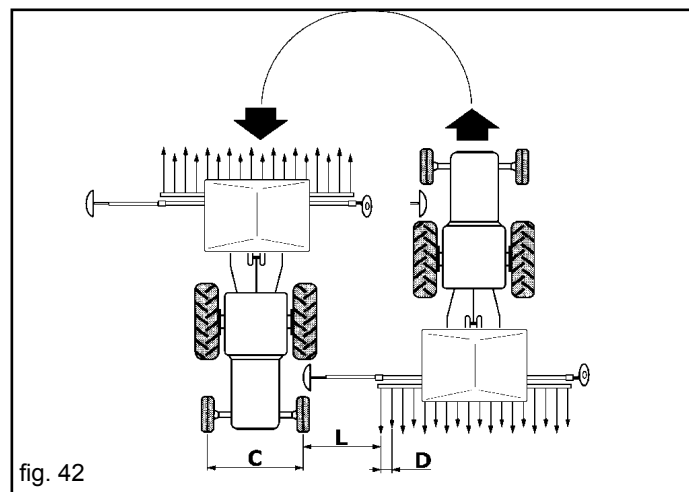
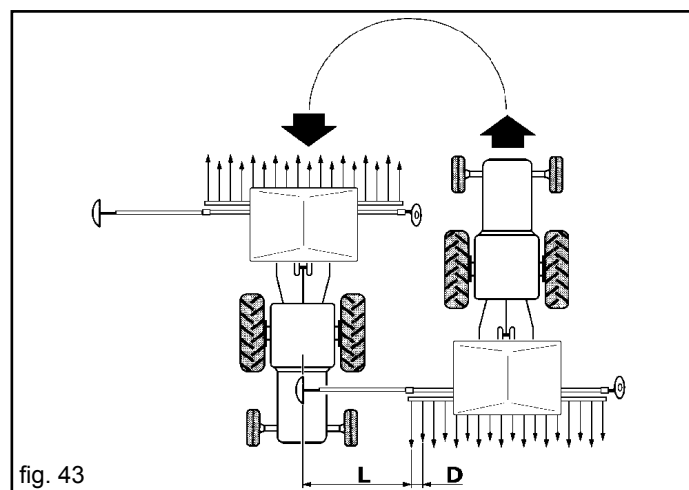

fig. 42
fig. 43
- **Mod. 400/450:** hydraulically folding row marker with trace **on the tractor wheel** (Fig. 42);
- **Mod. 500/600:** row marker with trace **in the centre of the tractor** and hydraulic folding inside the planter's overall dimensions (Fig. 43).
Once the tractor has completed its run and it has turned around, follow the reference row **with one of the front wheels** (Fig. 42) or **with the centre of the tractor** (Fig. 43) according to the row marker employed. Each time it passes, the seeder will mark a reference line on the side opposite to the previous passage.